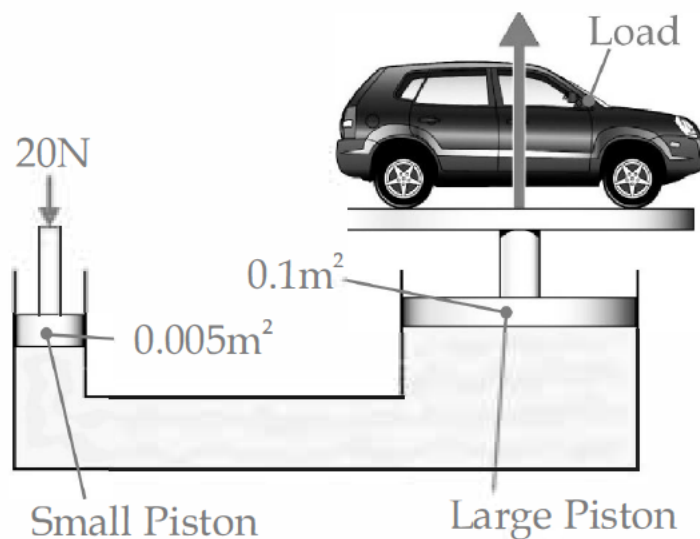

Fig 5.15
9. The Fig 5.15 shows a basic hydraulic system that has small and large pistons of cross section area of 0.005m^2 and 0.1m^2 respectively. A force of 20N is applied to small piston. Calculate